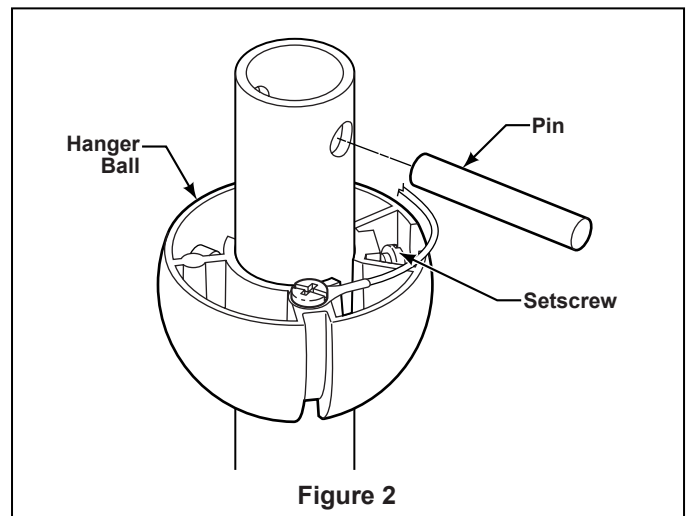

Figure 2
3. Remove the Hanger Ball by loosening the setscrew in the Hanger Ball until the ball falls freely down the Downrod. (Figure 2) Remove the Pin from the Downrod, then remove the Hanger Ball. Retain the Pin and Hanger Ball for reinstallation in Step 5.